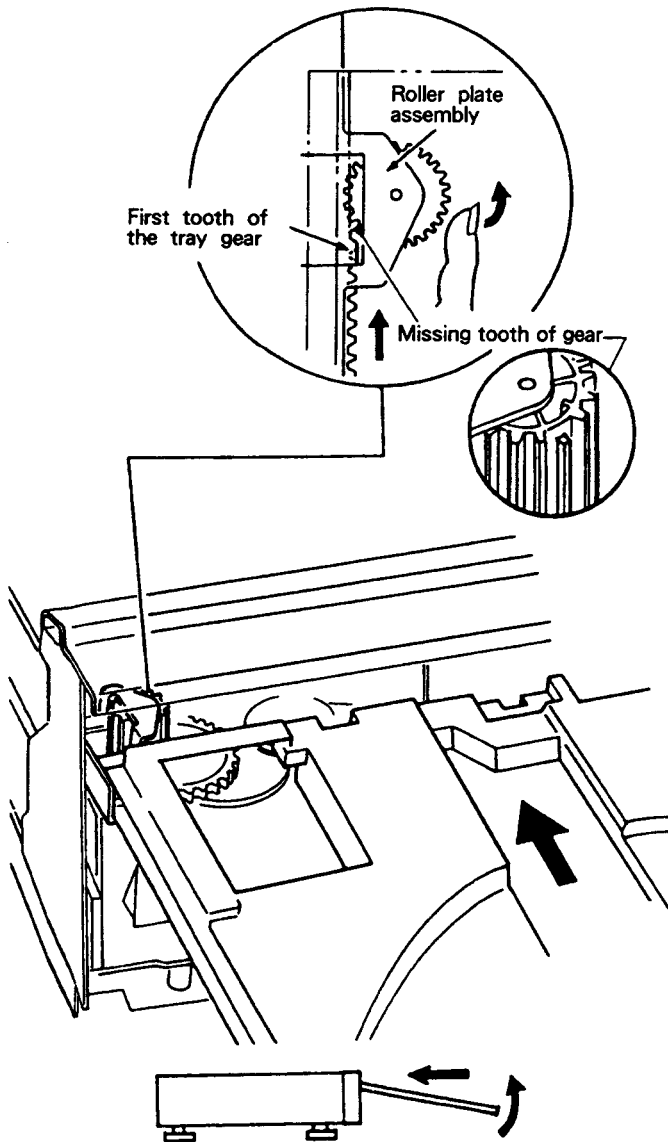

Fig. 7-17
7.10.2 Positioning the tray (Fig. 7-17)
- ① Set the player with the tray open.
- ② Set the roller plate gear so that the roller plate line intersects with the mid-point of missing tooth of the roller plate gear.
(At this time, adjust the position by the method shown in Fig. 7-17, or turn the power ON and use the SKIP (◀◀, ▶▶) buttons in the direction of OUT tilt it stops as shown in Fig. 7-17.)